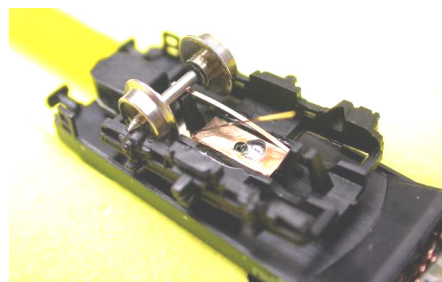
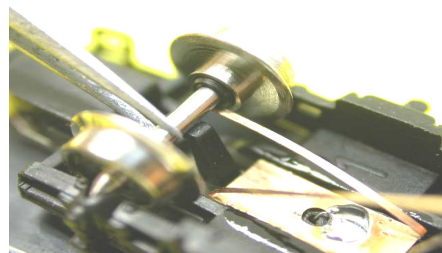
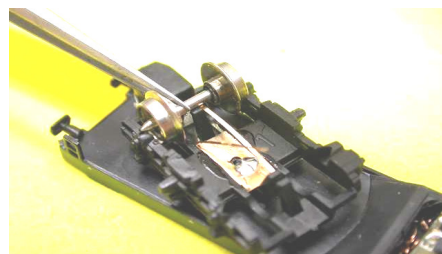
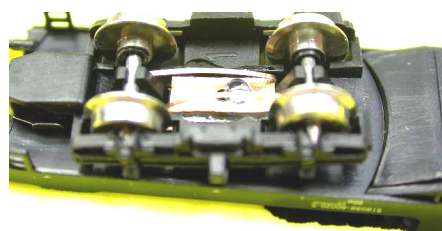

figure 3: The axle ready to be built in, lying on top of the clamp
figure 4: Pushing the axle into the clamp with the help of some tweezers.
figure 5: The axle has been pushed underneath the clamp holding it in its place.
figure 6: Left bogie: **both** axles with the isolated sides facing upwards
10. For reassembling the wheels, use the tweezers again. The model has to lie securely and backwards on the locomotive repairing fixture. Put the axle on the spot where it is usually held by the clamp, figure 3. Watch for the correct polarity! Figure 6 and 7. Now use your tweezers to bend open the clamp at the side away from the current collector by pressure on the axle and push in the wheels, figure 4. Finished – all done, figure 5.